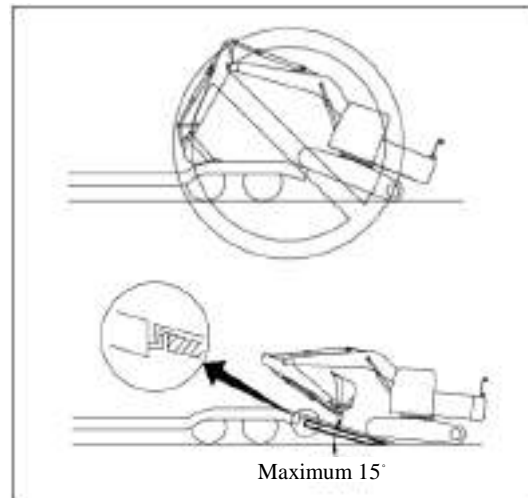

Figure 6-1 Precautions for loading and unloading
6. Use the ramp with adequate width, length, thickness and strength, and the loading/unloading slope should be no more than 15 ° (Figure 6-1). When bulldozing slopes, the soil should be compacted securely and measures should be taken to prevent slope collapse.